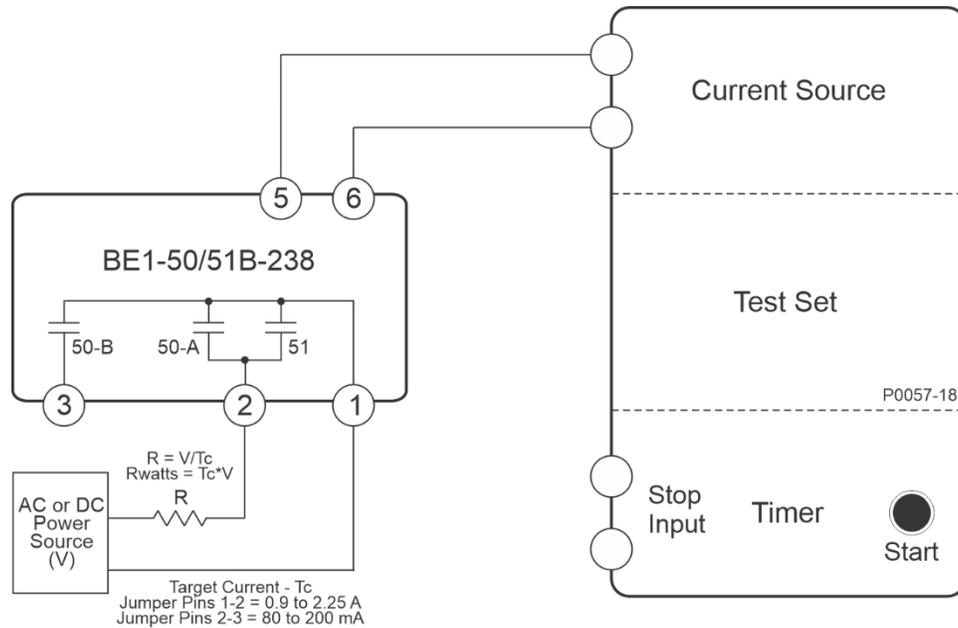

Figure 5-6. Target Indicator Test Setup
- a. Connect the test setup shown in Figure 5-6.